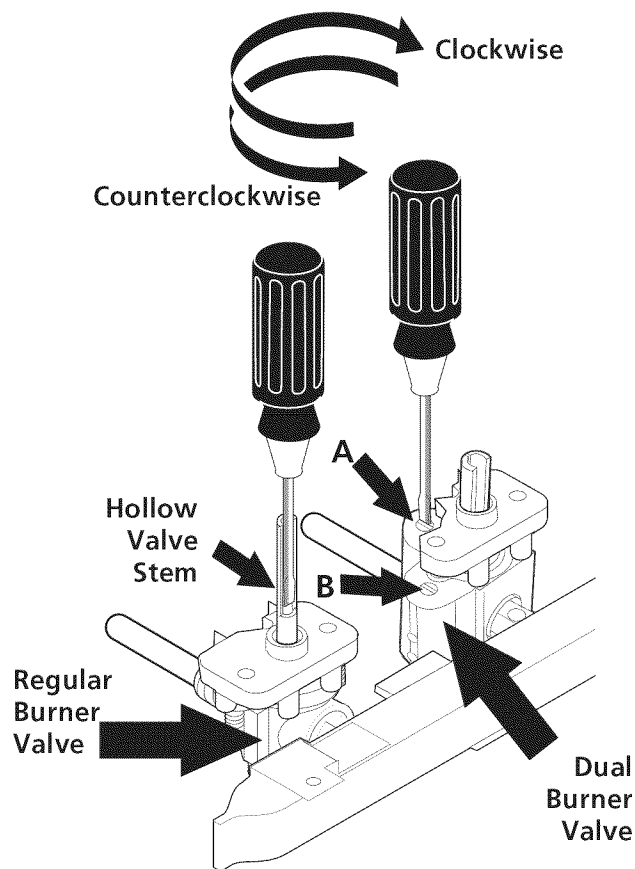

Figure 10
4. Adjust the "low" setting for regular surface burner valves (Figure 10)
5. Adjust the "LOW" Setting of the Dual Burner Surface Valve (Figure 10) (some models):